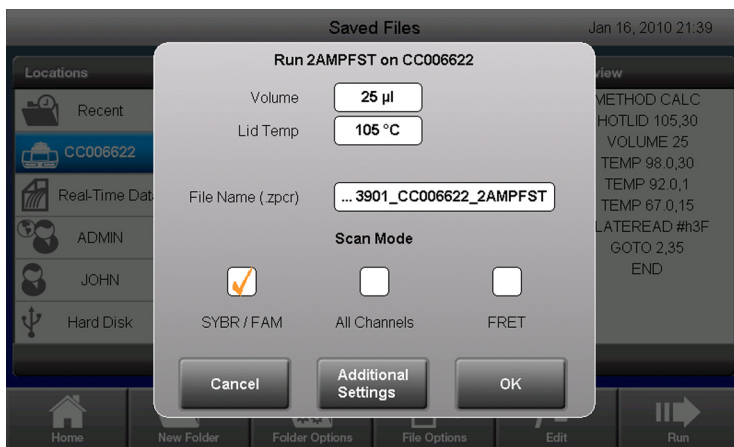

Figure 40. Run confirmation screen.
2. Verify the lid temperature (**Lid Temp**), sample volume (**Volume**), and file name (**File Name (.zpcr)**) that will be used for the run (Figure 40). A default stand-alone data file name is created prior to the run.